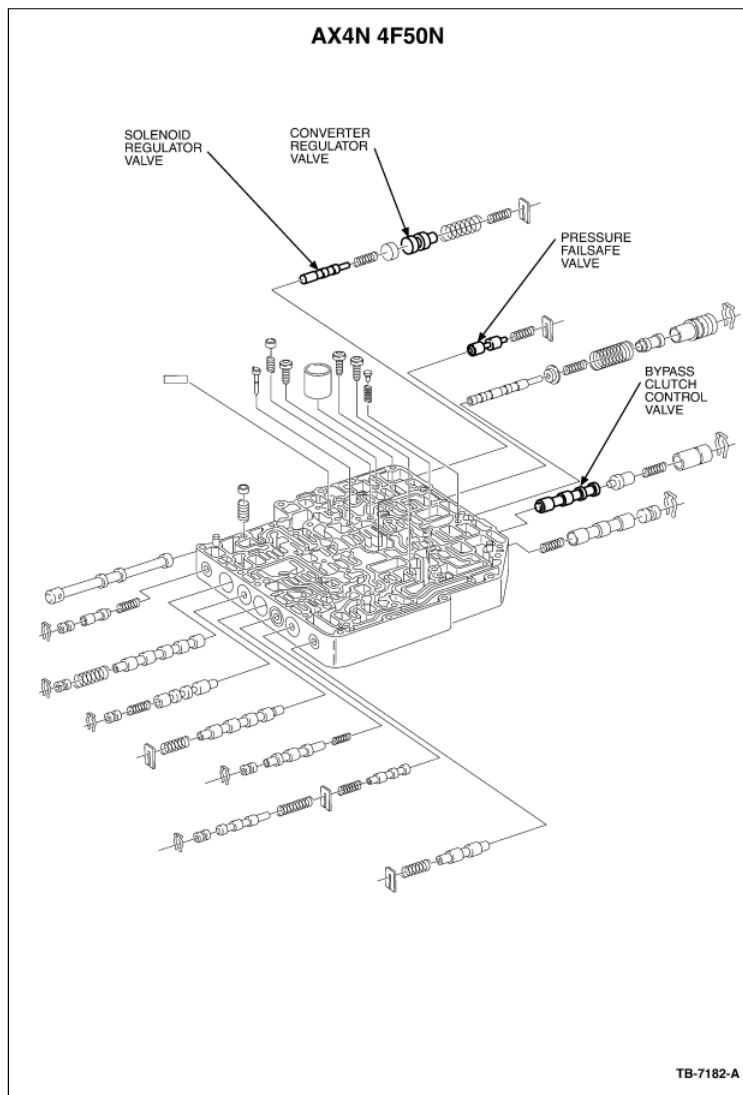
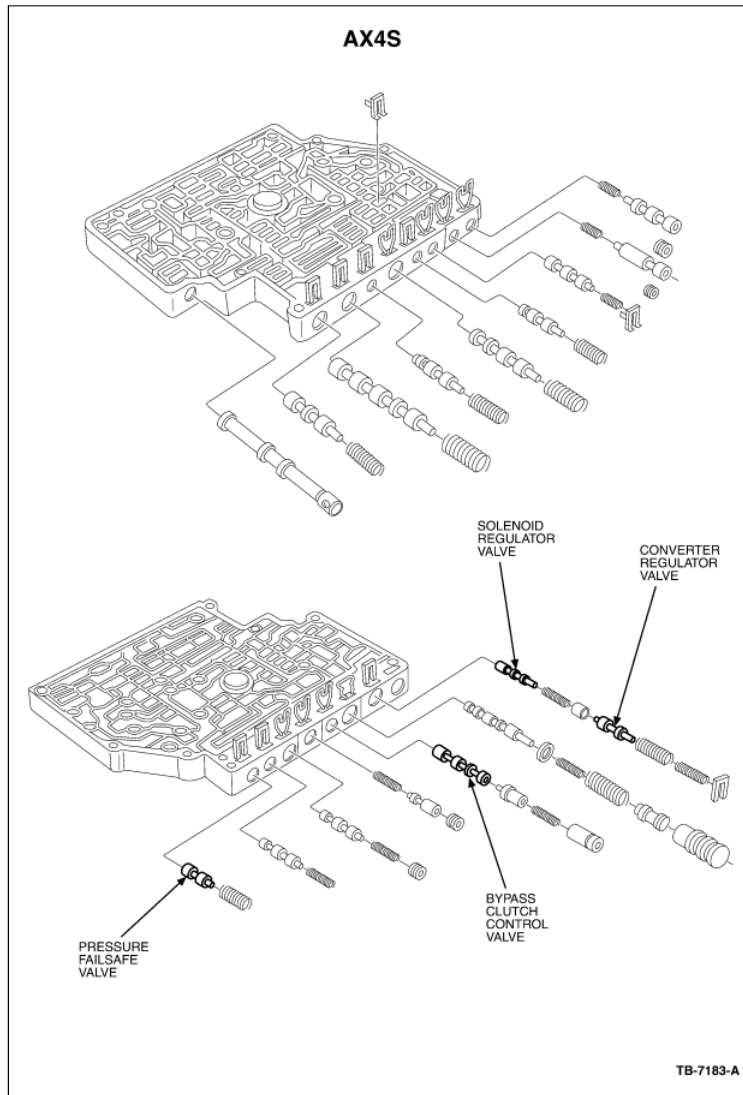

Figure 2 - Article 03-12-3
Figure 3 - Article 03-12-3
7. Inspect and clean the main control and make sure all valves move freely. Specifically, converter regulator valve, solenoid regulator valve, bypass clutch control valve or pressure failsafe valve (refer to Figure 2 for AX4N and Figure 3 for AX4S).